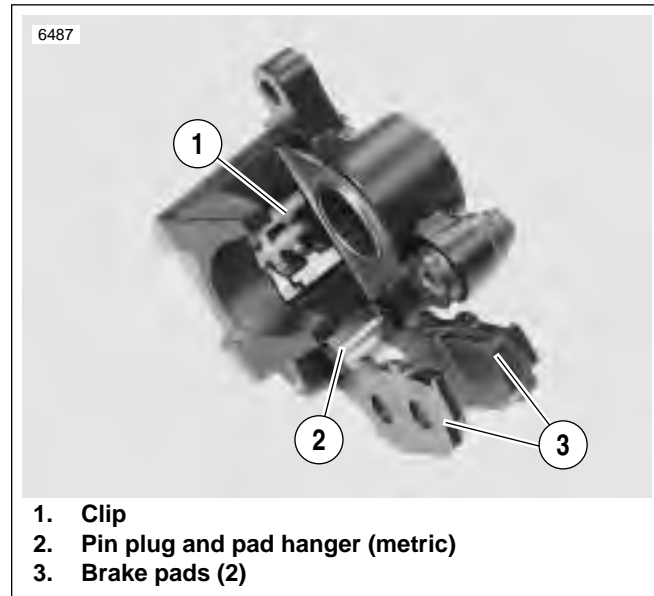

Figure 2-59. Brake Pads
2. See Figure 2-59. Remove spring clip (1).
- See Figure 2-59. Place clip (1) inside caliper body as shown.
- See Figure 2-59. Install brake pads (3) using pad hanger and pin plug (2).